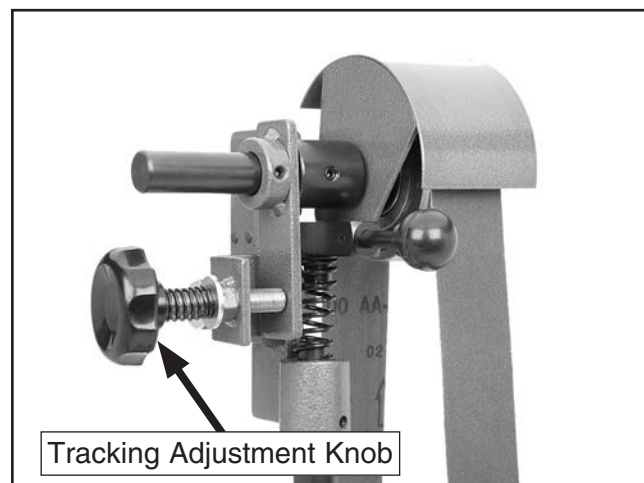

Figure 21. Sanding belt tracking adjustment knob.
4. Make a small adjustment to the tracking adjustment knob, then rotate the drive wheel several times while observing the sanding belt (see **Figure 21**).